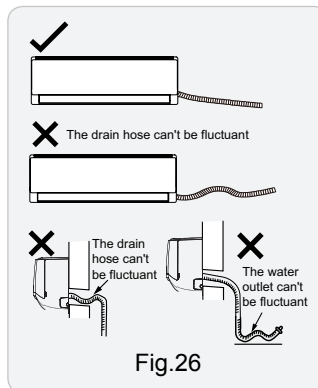

Fig.26
- Slant the drain hose slightly downwards. The drain hose cant be curved, raised and fluctuant, etc.(As show in Fig.26)